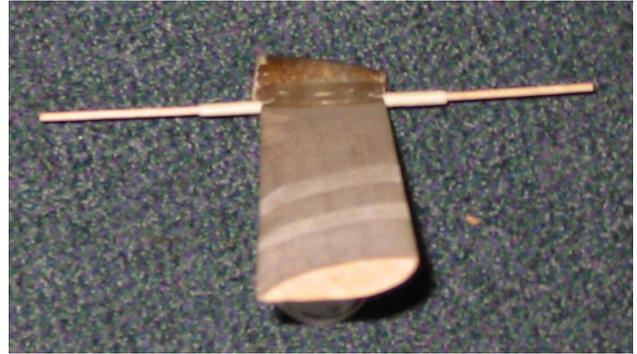

Figure 2.
1. Sand about 10 inches of the balsa into a wing profile, Figure 2.